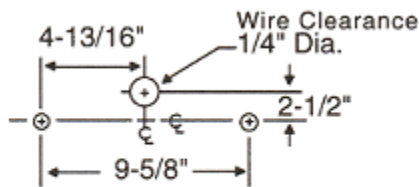

Figure No. 1
2. Figure No. 1 below: Drill 1/4" diameter wire clearance hole through the wall surface as shown in Figure No. 1.